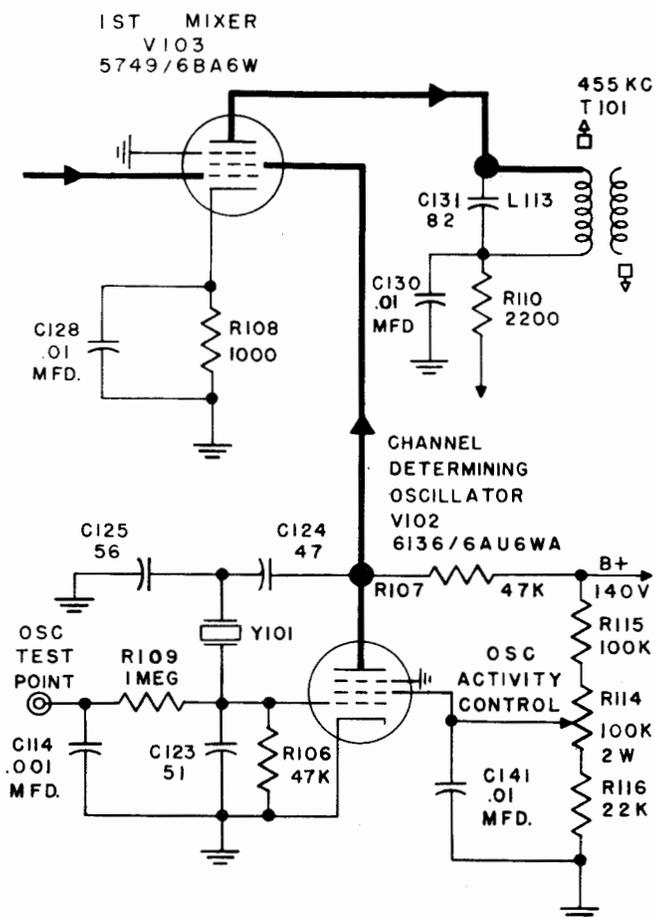

Figure 2-7. Simplified Schematic, 1st Mixer, Channel Determining Oscillator
This portion of the RF chassis assembly determines the frequency of the signal to which the receiver will respond, if the RF circuits are properly resonated. (See Figure 2-7.) It consists of a type 6136/6AU6WA pentode (V102) which functions as a Pierce oscillator, having a range of 2455 Kc to 8455 Kc. The oscillator generates a signal whose frequency is 455 Kc higher than that of the incoming signal. Mixing this signal with the desired incoming signal provides a 455 Kc first IF signal. The channel determining crystal Y101 is a non-temperature controlled type CR-18/U. This crystal is not supplied with the receiver, as its frequency will depend on the signal frequency to be received. The crystal appears electrically, in resonance, as a high Q parallel L-C circuit. With the proper crystal inserted in the crystal socket XY101, only voltage of crystal frequency is coupled to the grid (pin 1) of V102. This signal is amplified in V102 and appears across plate load resistor R107, which also acts as the screen voltage dropping resistor for
(4) FIRST MIXER.—As indicated in figure 2-7, the first mixer (V103) uses a 5749/6BA6W tube to mix the output of the RF amplifier with the output of channel determining oscillator (V102) to produce an IF frequency of 455 Kc. The output of the RF amplifier is applied to the grid (pin 1) of V103 and the oscillator frequency is injected into the screen of V103. The difference of these two frequencies, the 455 Kc IF, is selected by the plate circuit, C131 and L113, which is resonated to 455 Kc. Plate voltage is applied to V103 through isolation resistor R110 which is bypassed by C130. V103 cathode bias is obtained by means of cathode resistor R108, which is bypassed by C128. Additional bias in the form of AGC voltage or RF GAIN control voltage is applied to the grid through L110 from the AGC bus.